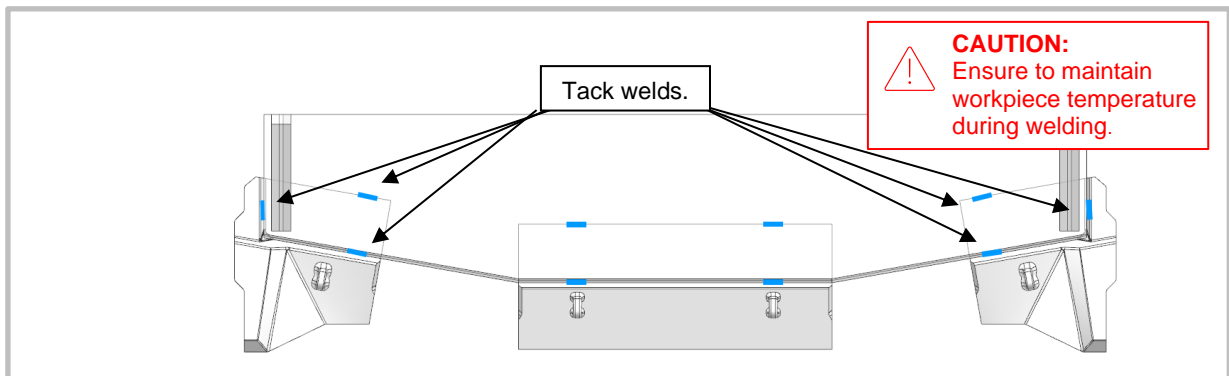

Figure 7 Corner segment placement (image is for reference purposes only)
Step 3 :Place Half Arrow corner segments on the lip and tack in place as shown in Figure 7.